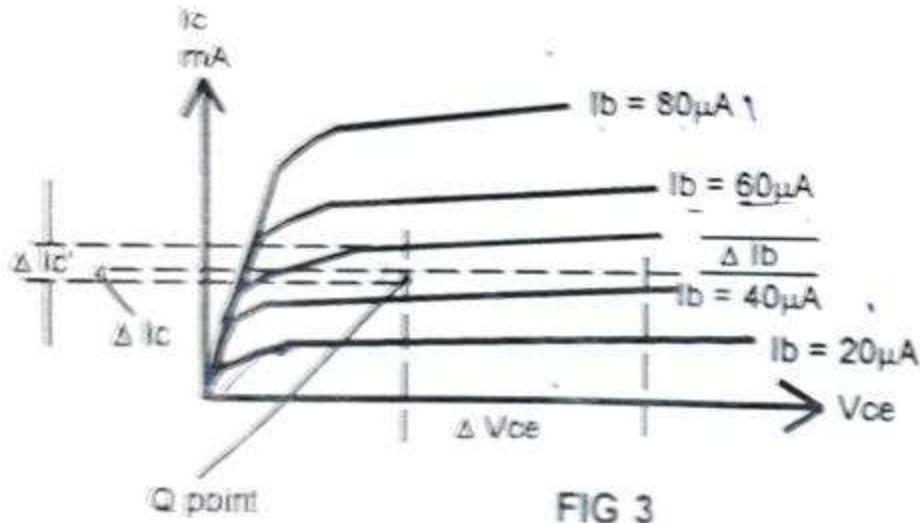

FIG 3
5. Plot the output characteristic curves from the observations , between I_C and V_{CE} . Fix an operating point in the middle of the curves, find out the slope of the curve as given in relation (2) and (3). See fig3.